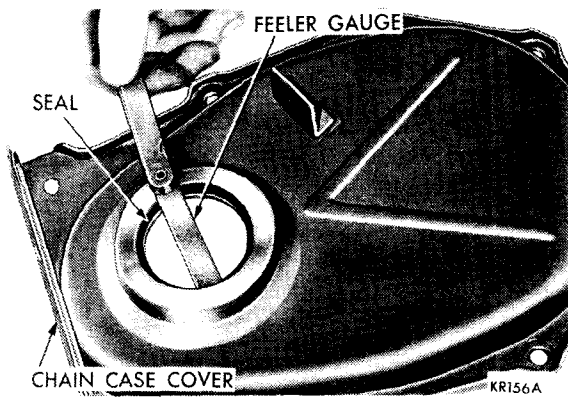

Fig. 22—Inspecting Seal for Proper Seating
(1) Using a drift and hammer tap lightly at several places around the seal case to deform the oil seal case inward.
(2) Engage the seal case with vise grips. Twist and pull on the vise grips at several places around the seal case for removal.
(3) Insert installing screw through the installing plate, part of Tool C-3506.
(4) Insert installing screw with the plate through seal opening (inside of chain case cover facing up).
(5) Place seal in cover opening, with seal lips down. Place seal installing plate into the new seal, with protective recess toward lip of seal retainer Tool SP-5598, part of Tool C-3506.
(6) Install flat washer and nut on installer screw, hold screw and tighten nut.
(7) The seal is properly installed when the seal case is tight against face of cover. Try to insert a .0015 inch feeler gauge between the case and the cover. If the seal is installed properly, feeler gauge cannot be inserted. Seal must be fully bottomed in cover (Fig. 22).